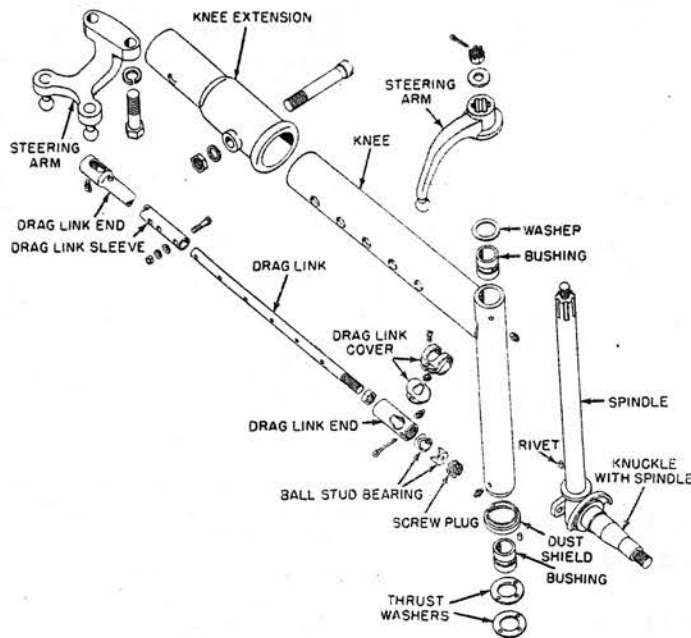

Fig. 49E Exploded view of knee assembly on tractors with wide tread front end. Models 50, 60
**ASSEMBLY**—Referring to Fig. 49E, install dust shield on knee. Place thrust washers on spindle and install spindle with knuckle assembly in knee. Be sure dowel pin engages thrust washers. Install washer.